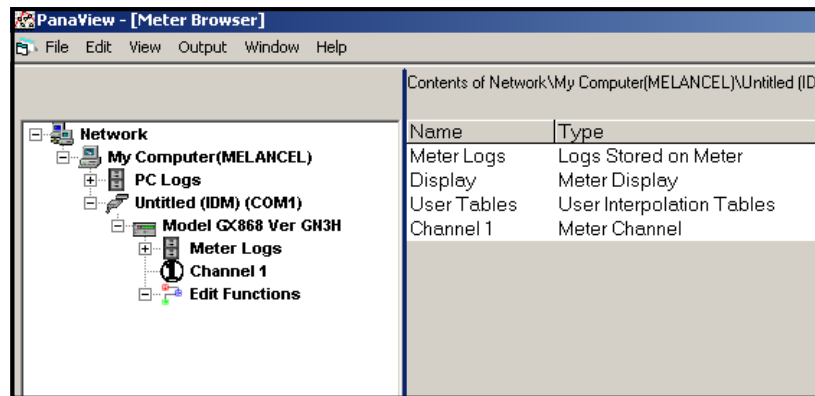

Figure 34: *New Meter Browser* with Meter Branch
3. Then expand the meter tree as shown in *Figure 34* below.